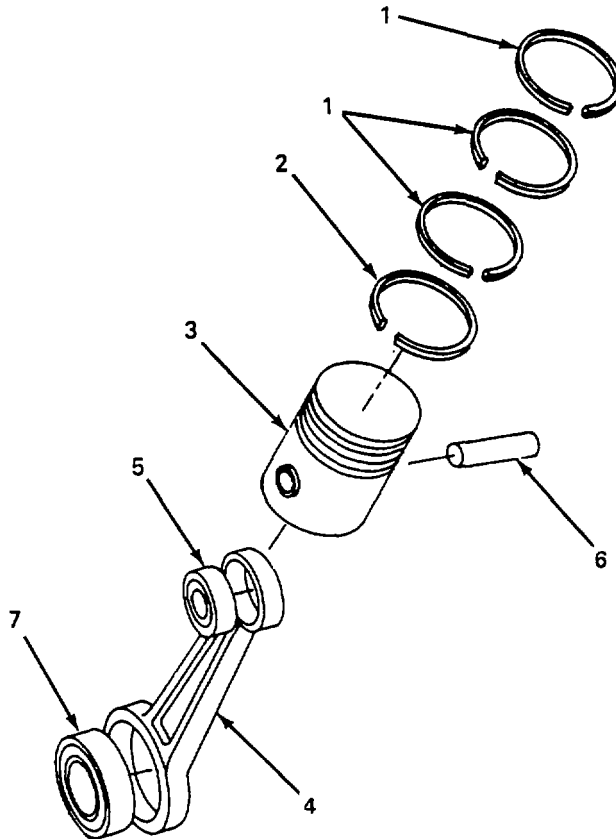

Figure 6-6. Second Stage Piston and Connecting Rod Assembly, Repair.
- (1) Install first stage cylinder (para. 6-8).
- (2) Install second stage cylinder (para. 6-10).
- (3) Install third stage cylinder (para. 6-12).
- (4) Install fanwheel (para. 5-36).
b. Repair. (figure 6-6)
- (1) Remove piston and connecting rod assembly (para.a.).
- (2) Remove three tapered rings (1) and one plain piston ring (2) from piston (3).
- (3) Inspect piston (3) and replace if scored or measurements taken 90° apart on piston differ by more than 0.03 in. (.762 mm) or diameter of piston (3) is less than 1.4173 in. (36 mm).
- (4) Inspect connecting rod (4) and replace if bent or cracked. Replace bushing (5) if scored or clearance between wrist pin (6) is greater than 0.003 in. (0.0762 mm) or clearance between crankshaft and bushing (7) is greater than 0.001 in. (0.0254 mm).
- (5) Clean out piston ring grooves thoroughly.
- (6) Install plain piston ring (2).
- (7) Install three tapered piston rings (1) with tapered area facing up.
- (8) Install piston and connecting rod assembly (para. a.).